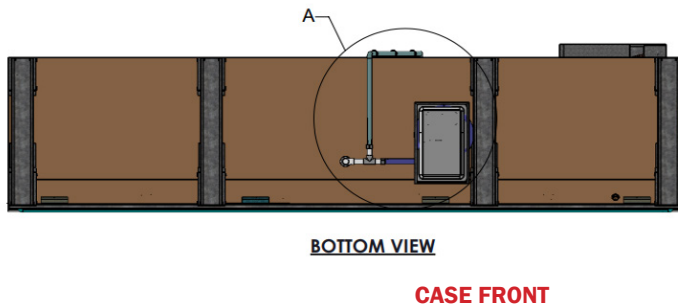

Fig. 31 Long vinyl tubing
4. Once the Drain Adapter is secured, attach the Long Vinyl tubing to the rear-facing barbed fitting (T-section) (Fig. 31).